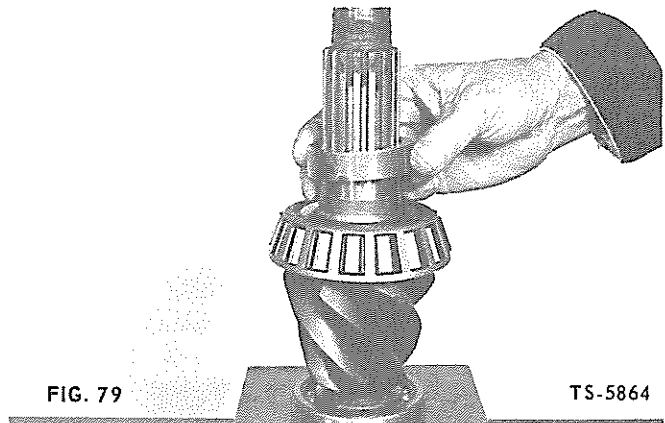

FIG. 79
4. A pinion bearing spacer and shim kit is provided for service repair of differential and carrier assemblies. This kit, consisting of a spacer and quantity of shims, is used to obtain proper pinion bearing preload as described below. Position bearing spacer and one .010 inch shim on pinion shaft (Fig. 79).
8. After spacer and shim have been installed for axle Part Nos. 130064, 131076, and 131597 (Fig. 79), position center bearing cup and bearing cage on pinion shaft (Fig. 87).